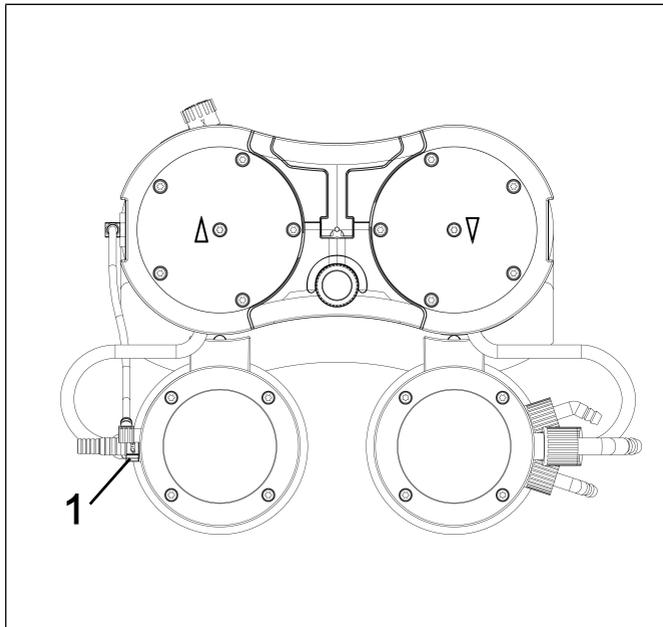

Fig.24: Loosen hose connection
1. Loosen the union screw of the hose connection (1/Fig. 24) from the vacuum system component.
i If necessary, use a size 14 open-end wrench to loosen the union screw of the separator hose connection (1/Fig. 24).
10. Screw in the union screw of the separator hose connection (1/ Fig. 24) on the separator adapter as far as it will go.
- i** If necessary, use a size 14 open-end wrench to tighten the union screw of the separator hose connection (**1**/Fig. 24)